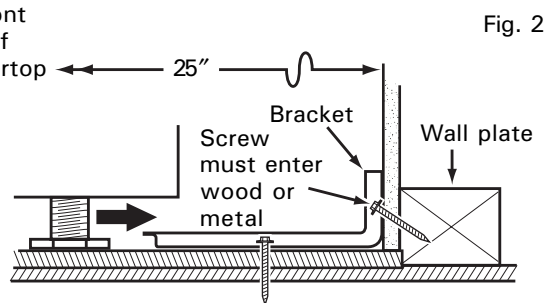

Fig. 2
- Drill a 1/8" pilot hole through the pre-marked areas. Note the angle of the wall screw in Fig. 2.